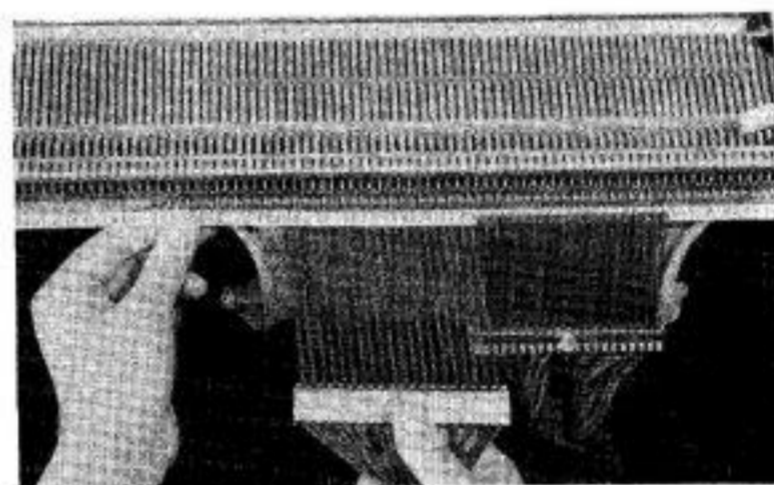

Fig. 73
- (e) Place a piece of Needle Selection Guide Strip just below and along the sinker hooks holding it with your left hand as shown in Fig. 73.
- (h) Carriage now on right. Pull out the Needle Selection Guide Strip. Again place the Strip just below and along the sinkers—see Fig. 73. In the same manner as described in (f) above, hook each strand onto its adjacent needle on left. Knit three rows. Repeat the above procedure.